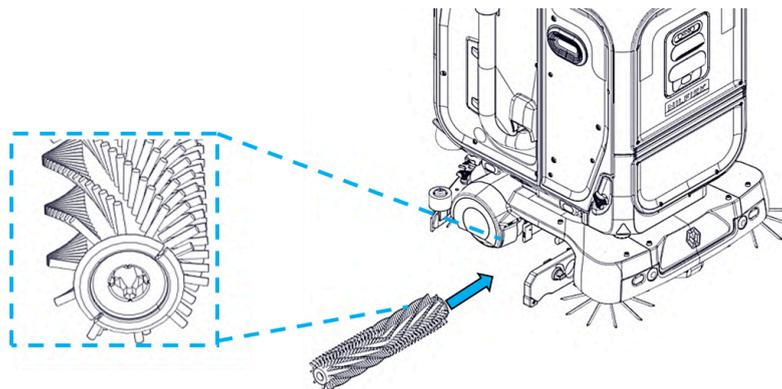
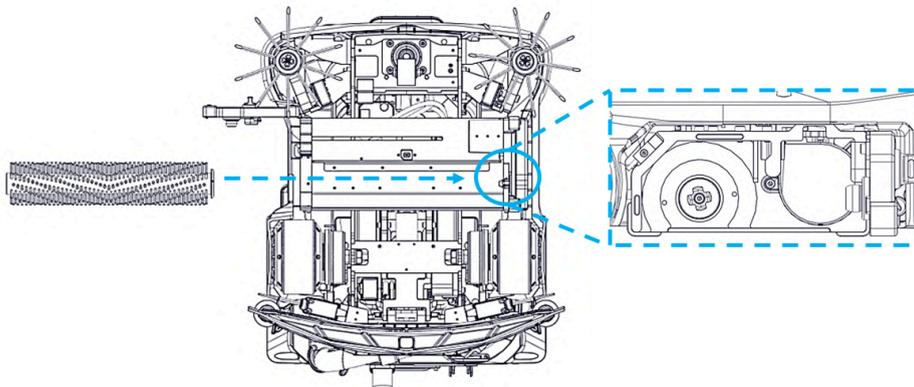

FIGURE 10-10
FIGURE 10-11
3. Check the end of the brush with the female alignment and lock feature, then slide the brush into the brush slot (**Fig. 10-10**) (**Fig. 10-11**).